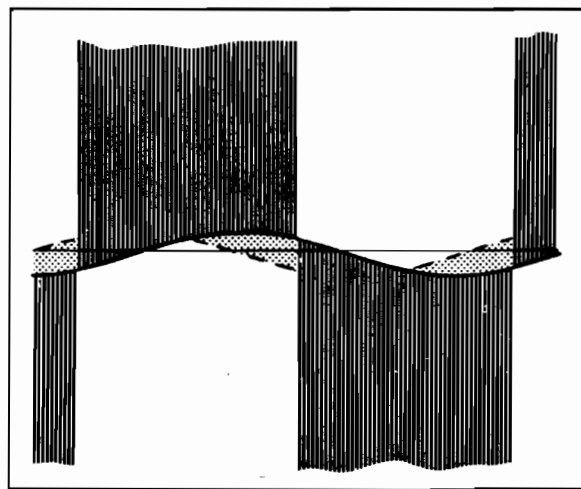

Figure 7b - COMPOSITE PHC Adjustment
7. Rotate the COMPOSITE PHC (PHase Compensation) control from one extreme to the other. The baseline should pass through a point of optimum flatness in a "side-to-side" direction as shown in Figure 7b. Set the control for best flatness at the 15kHz test frequency.